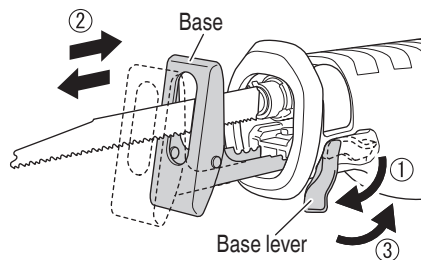

Fig. 8
- (1) Turn off the switch and disconnect the plug from the receptacle.
- (2) Pivot the base lever clockwise; and slide the base to the desired position. There are five positions that the base can be adjusted to.
- (3) Pivot the base lever counterclockwise to secure the base. (Fig. 8)